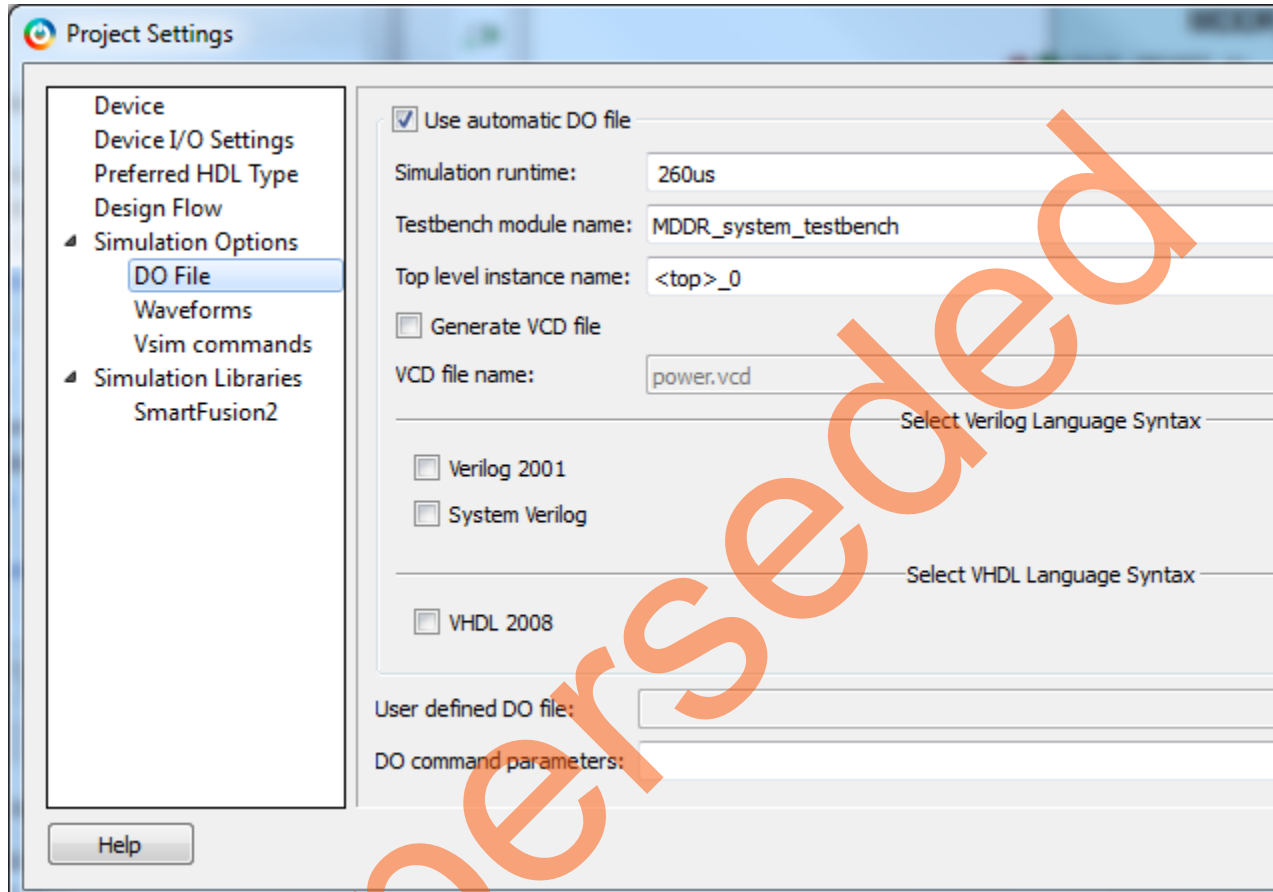

Figure 34. Project Setting – Do File Simulation Runtime Setting
2. Select **Do File** under Simulation Options in the Project Settings window. Change the **Simulation runtime** to 260us, as shown in Figure 34.